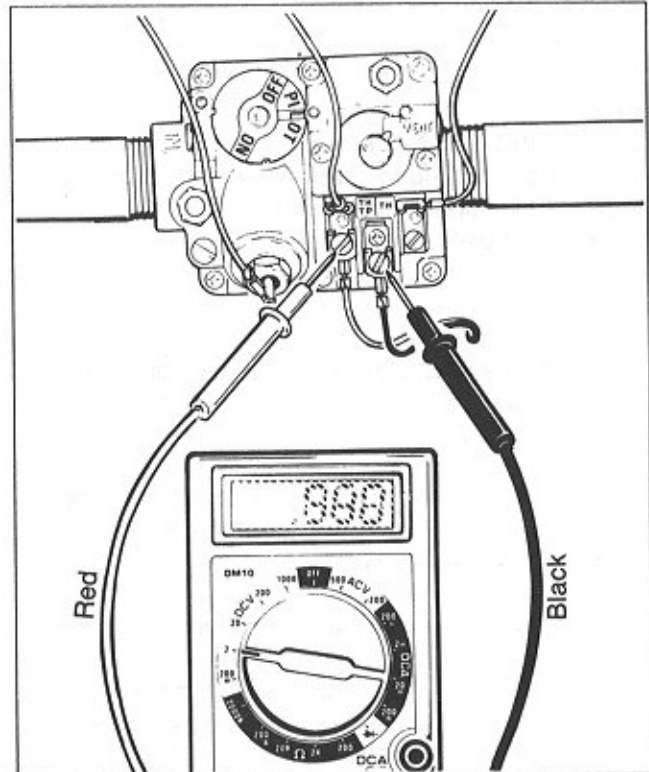

Figure 21. Closed Circuit Test
10. Attach the black multimeter lead to terminal TP on the gas valve (see Fig. 21).